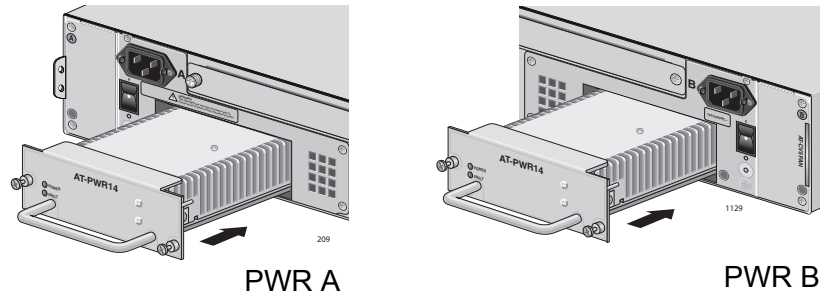

Figure 56. Inserting the AT-PWR14 AC Power Supply
- Slide the AT-PWR14 power supply into the selected slot, as shown in Figure 56, until the module is flush with the front of the chassis.